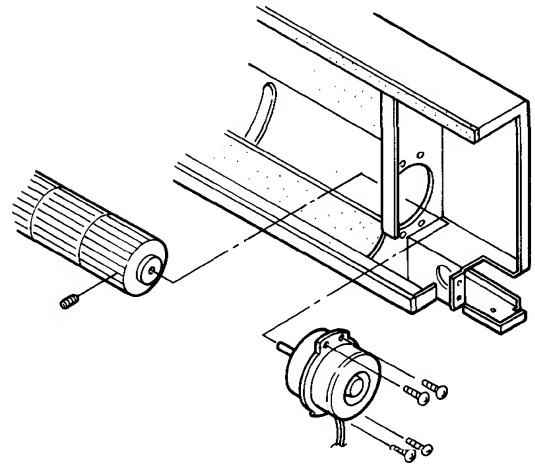

Fig. 8
- 2) As shown in Fig. 8 loosen the four screws which secure the fan motor.